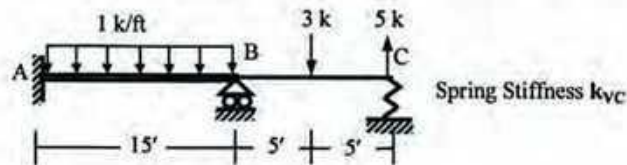

Fig. 10
12. For the beam loaded as shown in *Fig. 10*, use the Stiffness Method to calculate the rotation at joint B and vertical displacement of joint C, if B is supported by a circular foundation of radius 2-ft on sub-soil (half-space) [Given: Unit weight of soil = 0.12 k/ft^2 , shear wave velocity (v_s) = 500 ft/sec , Poisson's ratio = 0.25 , $EI = 40 \times 10^3 \text{ k-ft}^2$].